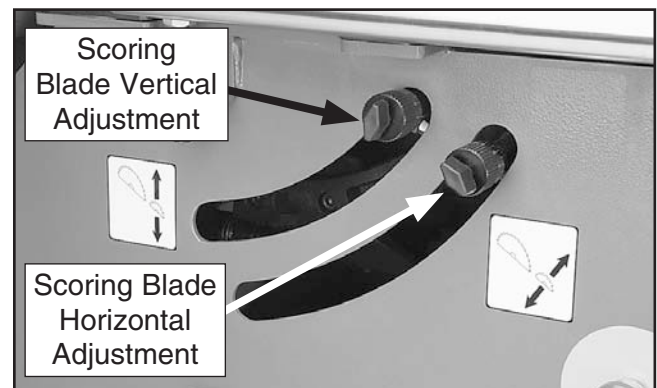

Figure 72. Scoring blade adjustment controls.
2. Place a straightedge across the body of the main blade (not the teeth) and align the body of the scoring blade to the main blade, by turning the horizontal adjustment control shown in **Figure 72**.
2. Adjust the height of the scoring blade, by turning the vertical adjustment control (see **Figure 72**), until the exposed portion equals the kerf thickness of the main blade.